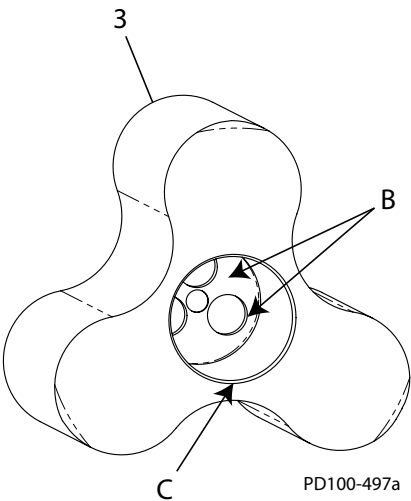

Figure 55 - Rotor Detail
- 1. The shaft bore of the rotors (Figure 55, item 3) must be clean and free of burrs and debris (Figure 55, item B). The edge chamfer (item C) must be free of burrs to prevent damage to the o-rings.